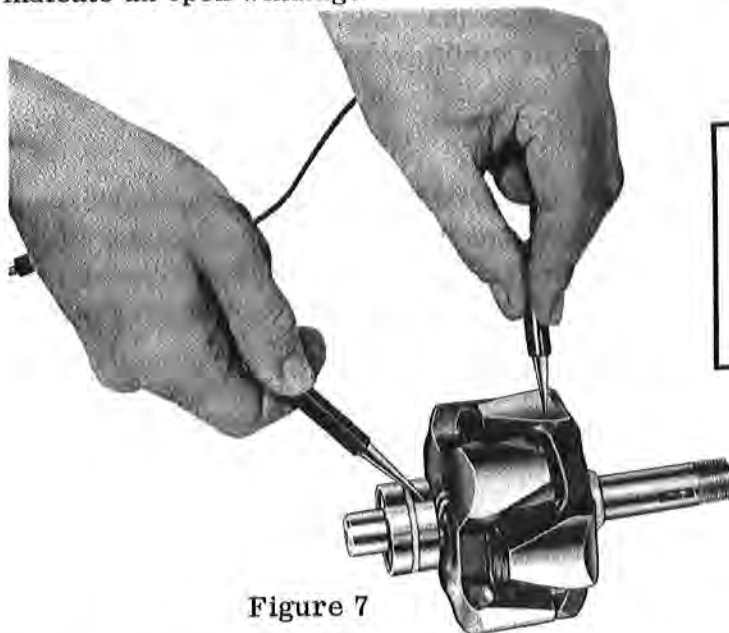

Figure 7
1. **Rotor** - The rotor should be tested for grounded or shorted windings. The ground test can be made with test probes, connected in series with a 110 volt test lamp, an ohmmeter or any type of continuity tester. Figure 7. There must not be any continuity between the slip rings and the rotor shaft or poles.